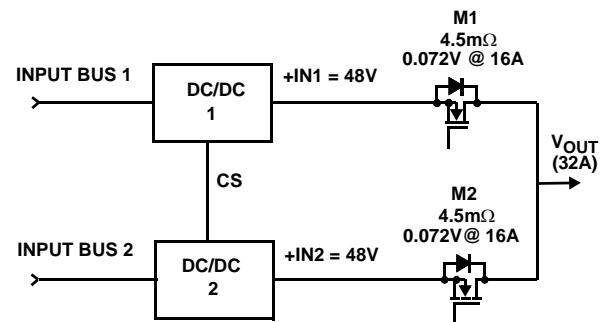

FIGURE 31. 1+1 REDUNDANT SYSTEM WITH MOSFET ORING
For example, in a 48V, 32A (1 + 1) redundant system with current sharing, using a Schottky diode as the ORing device (Refer to Figure 31), the forward voltage drop is in the 0.4V to 0.7V range, (let us assume it is 0.5V). The power loss across each diode is shown in Equation 10:
- In the particular cases illustrated in the previous examples of Figures 31 and 32 with  $N = 1$ , each of the two ORing feeds have to be able to handle the full load current.